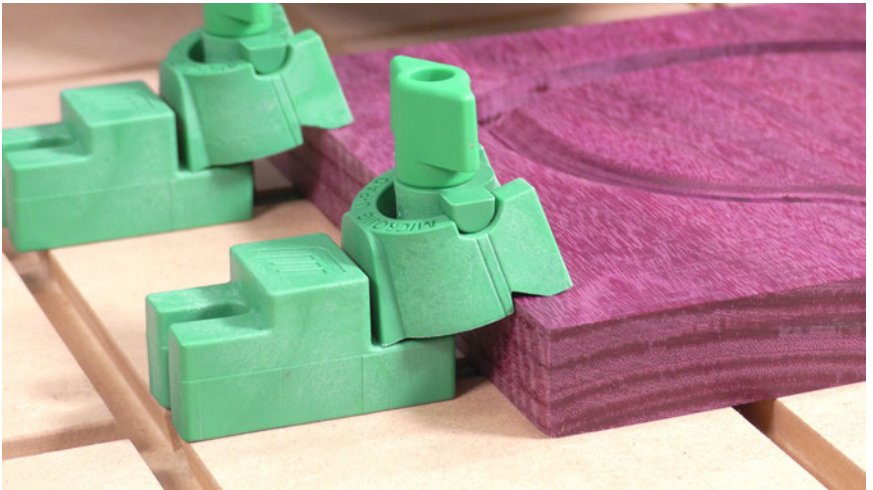

Fig 7a - U-Pad closeup
- 7.3. The notch in the clamping face holds parts downward, but also prevents the part sliding side to side during heavy cutting. (Fig 7a)